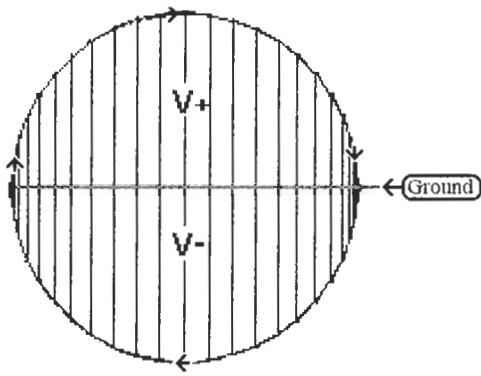

Figure L49-7
2. Figure L49-7 graphically shows the increase in the voltage of the electron as it speeds up and slows down. The voltage actually inscribes a circle.